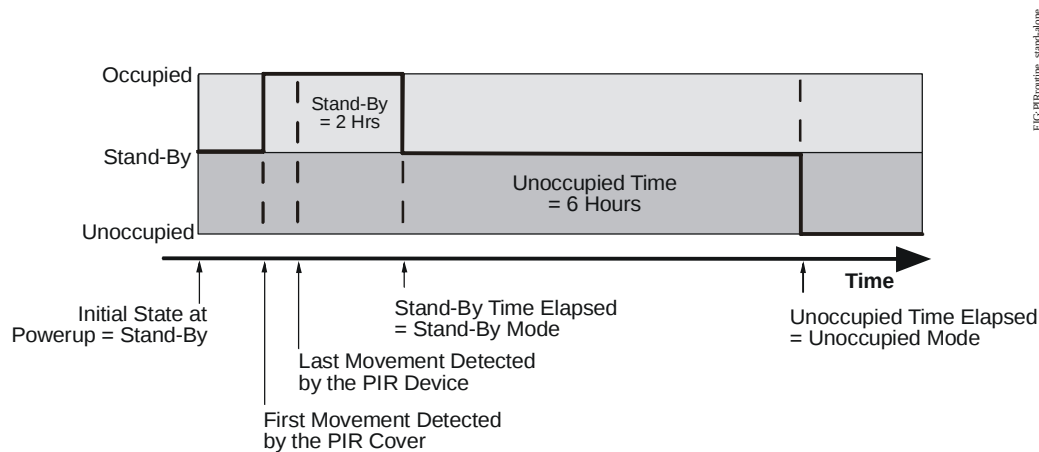

Figure 4: Initial Powerup, Stand-Alone or Networked
- In stand-alone applications at powerup: **Stand-By** (Figure 4)